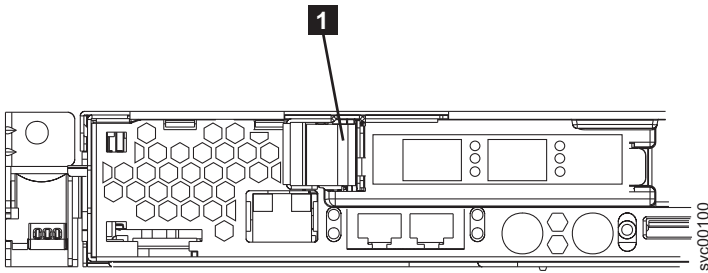

Figure 176. SAN Volume Controller 2145-8F2 or SAN Volume Controller 2145-8F4 PCI slot 1 card retainer
- a. Pull the blue PCI card retainer **1** from the rear of the node, shown in Figure 176 on page 192.